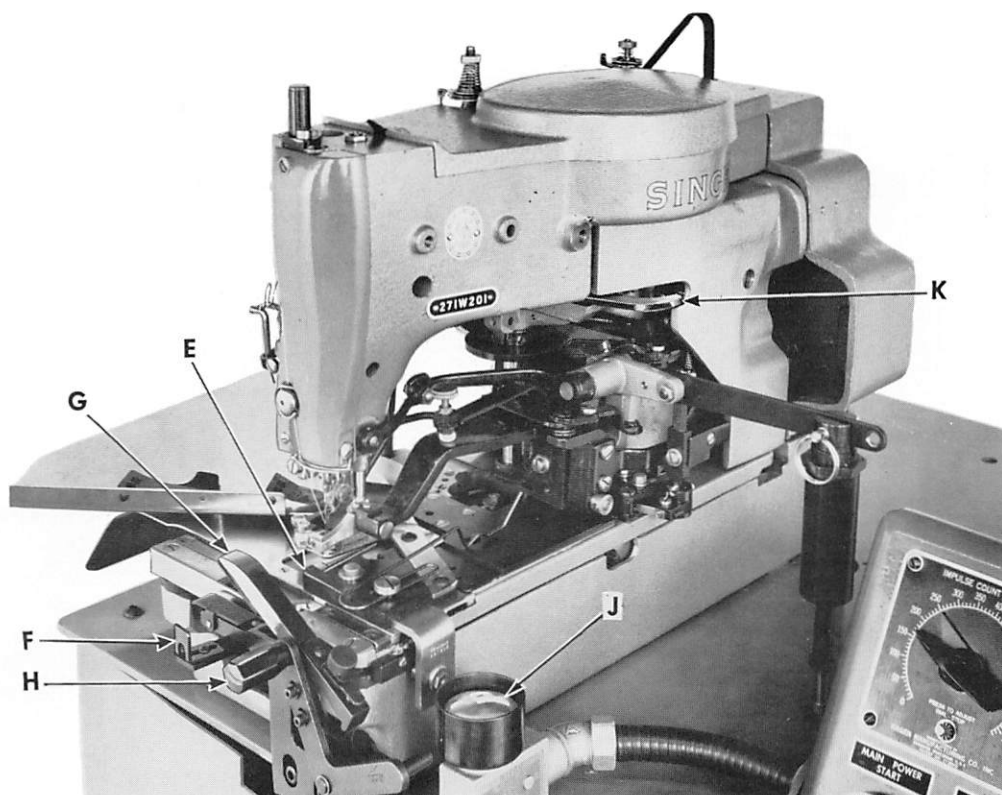
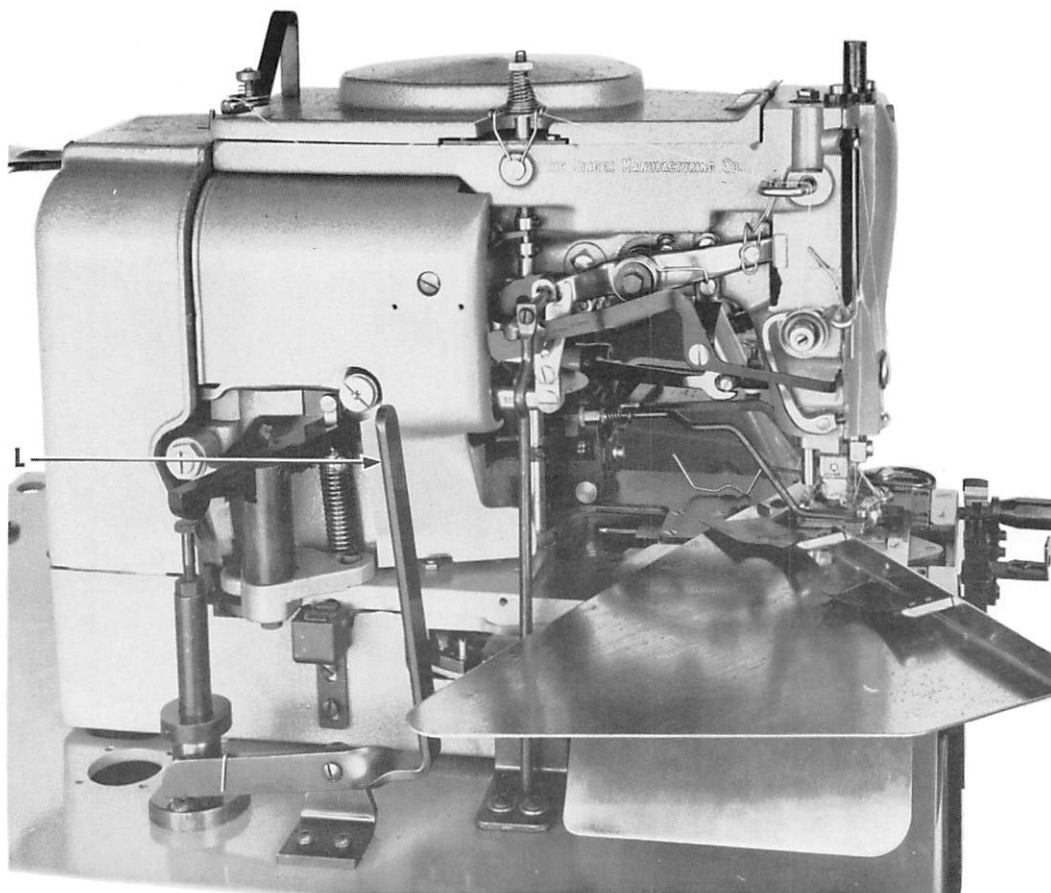

Fig. 3. To Start Sewing
Fig. 4. Manual Starting Lever
4. Place garment under work clamp with facing edge against guide E, Fig. 3 and end of garment at guide F.
5. Close upper gripper jaw G, Fig. 3 by pushing lever H to the right.
7. Press Auto Start J, Fig. 3...Work clamp lowers and machine starts to sew.
8. At the completion of the cycle (garment finished), the work clamp raises and gripper jaw G, Fig. 3 opens to release garment.
9. Re-load with next garment...press Auto Start J, Fig. 3 and machine will automatically complete the second garment.
10. After the pre-set number of buttonholes has been sewn, counter arrow C, Fig. 2 reaches "O" on dial, "BOBBIN EMPTY" indicator Fig. 2 lights and Auto Start J, Fig. 3 becomes inoperative (operator cannot start a new cycle).
- (a) To complete unfinished buttonhole, re-thread machine and operate hand ratchet lever K, Fig. 3 until work clamp moves garment to desired position. Pull manual starting lever L, Fig. 4 and the machine will complete the unfinished buttonhole, then automatically continue its regular cycle.
The distance from buttonhole to facing edge of garment is adjustable from  $\frac{3}{8}$ " to 1". To adjust, loosen the two screws in edge guide E, Fig. 3 and move guide to left or right as desired, then tighten the screws.